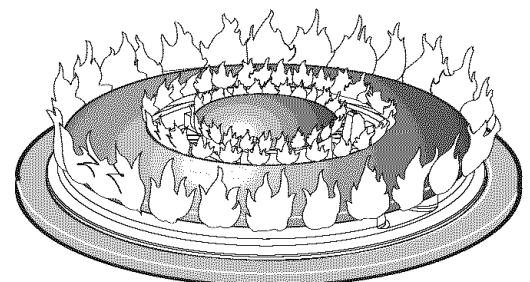

Figure 4
6. Visually check that all zones of the Triple Burner are lit (Figure 4).
5. Visually check that both portions of the burner are lit. Adjust the flame size by turning the control knob between the **second HI and LO settings** (See Figure 4).